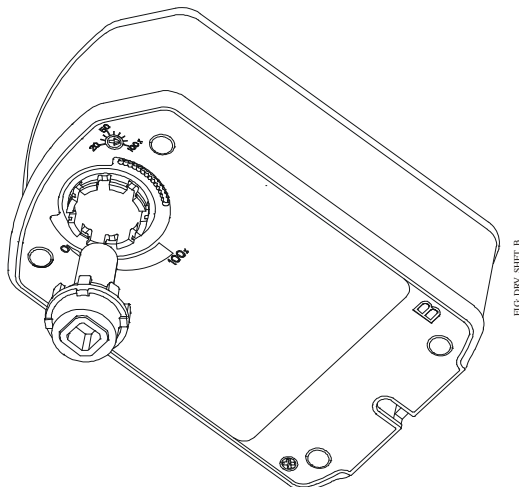

Figure 19: Inserting the Drive Shaft
3. Insert the drive shaft into Side B (Figure 19).